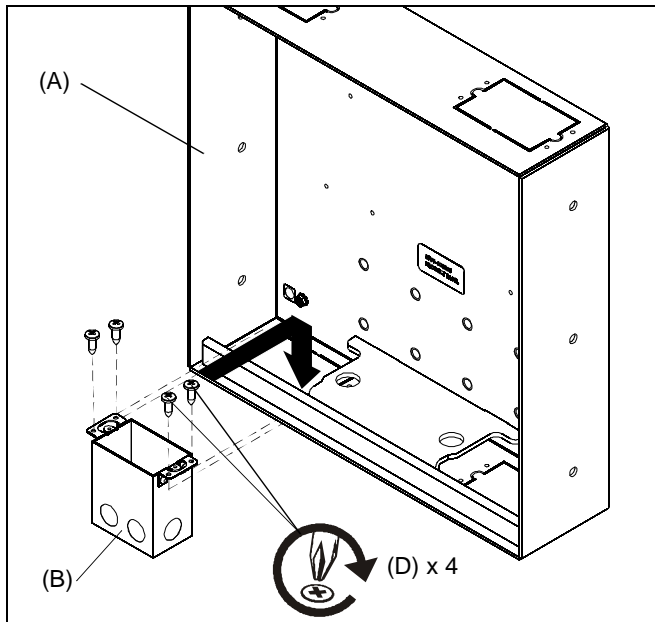

Figure 2
1. Install junction box (B) into the in-wall box (A) using four 08 x 1/2" Phillips pan head tap screws (D). (See Figure 2)